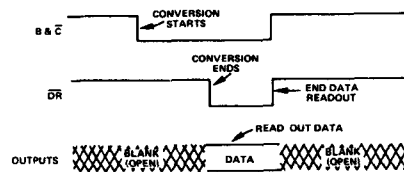
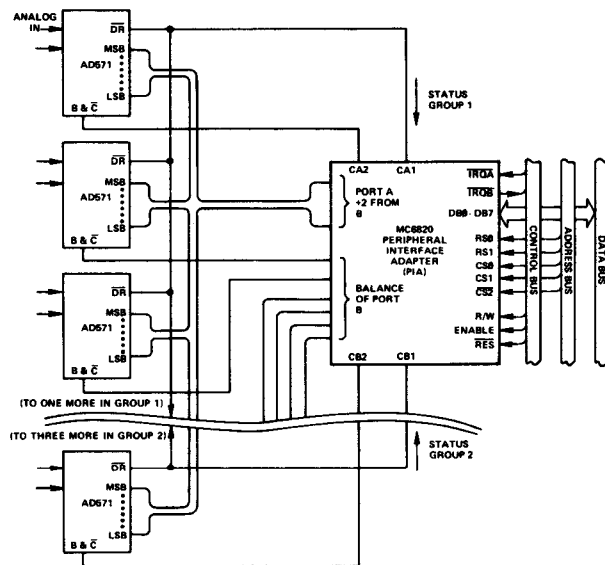

Figure 14. Multiplex Mode
Figure 17. Multiplexing 8 AD571's Using Single PIA for  $\mu\text{P}$  Interface. No Other Logic Required (6800 Control Structure)
**Multiplex Mode** — In this mode the outputs are blanked except when the device is selected for conversion and readout; this timing shown in Figure 14. A typical AD571 multiplexing application is shown in Figure 17.
An improved technique for interfacing to a  $\mu\text{P}$  bus involves the use of special peripheral interfacing circuits (or I/O devices), such as the MC6820 Peripheral Interface Adapter (PIA). Shown in Figure 17 is a straightforward application of a PIA to multiplex up to 8 AD571 circuits. The AD571 has 3-state outputs, hence the data bit outputs can be paralleled, provided that only one converter at a time is permitted to be the active state. The  $\overline{\text{DATA READY}}$  output of the AD571 is an open collector with resistor pull-up, thus several  $\overline{\text{DR}}$  lines can be wire-ored to allow indication of the status of the selected device. One of the 8-bit ports of the PIA is combined with 2-bits from the other port and programmed as a 10-bit input port. The remaining 6-bits of the second port are programmed as outputs and along with the 2 control bits (which act as outputs), are used to control the 8 AD571's. When a control line is in the "1" or high state, the ADC will be automatically blanked. That is, its outputs will be in the inactive open state. If a single control line is switched low, its ADC will convert and the outputs will automatically go active when the conversion is complete. The result can be read from the two peripheral ports; when the next conversion is desired, a different control line can be switched to zero, blanking the previously active port at the same time. Subsequently, this second device can be read by the microprocessor, and so-forth. The status lines are wire-ored in 2 groups and connected to the two remaining control pins. This allows a conversion status check to be made after a convert command, if necessary. The ADC's are divided into two groups to minimize the loading effect of the internal pull-up resistors on the  $\overline{\text{DATA READY}}$  buffers. See the MC6820 data sheet for more application detail.